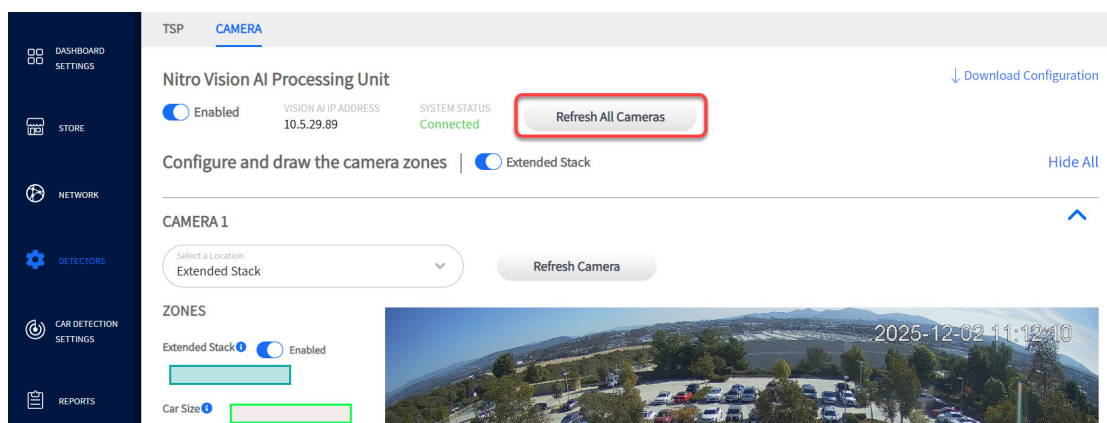

Fig. 21
3. The Camera page will populate. Click/tap the “Refresh All Cameras” button to see preview (Fig. 21).